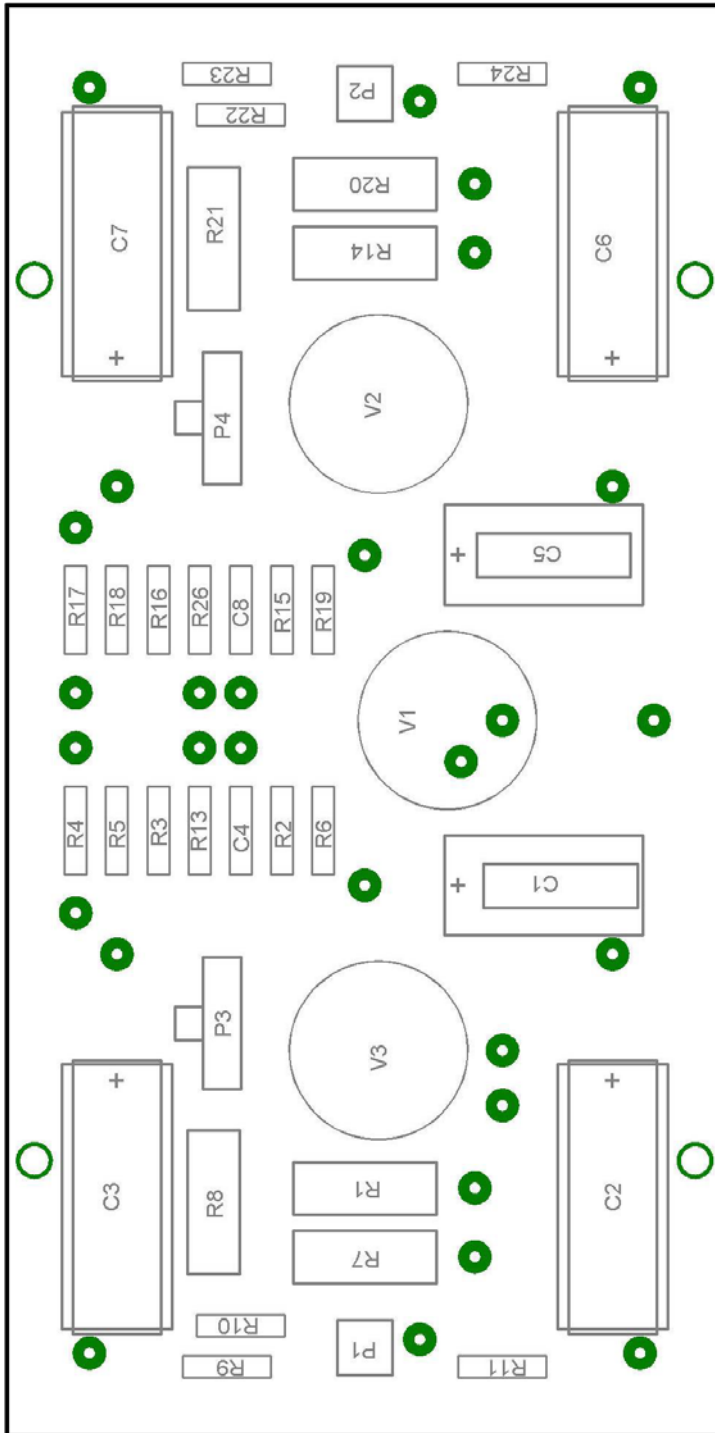

Figure 2 – DC Balance Option Wiring Diagram – Output Tubes
5. After you have desoldered all of the wires from the original Dynaco driver board (PC-3) remove it by removing the four (4) 4-40 nuts from the bottom of the board. The board should fall loose (if not identify if any other wires still remain).
6. Remove the two (2) 470K ohm connected to the audio input connector tabs. These resistors are no longer necessary.
7. **DC Balance Option – Refer to Figures 2 & 3-** If you have purchased the DC Balance Option complete the following steps (otherwise skip to the following section):
- a. Reference Fig 2 - At the RIGHT output tube socket pair, remove the original 15.6 ohm bias set resistor and the wire connecting pins 1& 8 of one of the output tubes with pins 1&8 of the other output tube.
- b. Reference Fig 2 - Install the two 10 ohm / 2 Watt resistors as shown.
- c. Referencing Figure 2 - At the LEFT output tube socket pair,, remove the original 15.6 ohm bias set resistor and the wire connecting pins 1& 8 of one of the output tubes with pins 1&8 of the other output tube.
- d. Referencing Figure 2- Install the two 10 ohm / 2 Watt resistors as shown.
- a. Reference Figure 2 - Remove the three driver tubes and insert the rectifier tube (if you are using a tube rectifier) and the two left channel output tubes (V1 & V2). Do not install the right channel output tubes right now.
We will now repeat the same steps for the RIGHT Channel (Ref Figure 2):